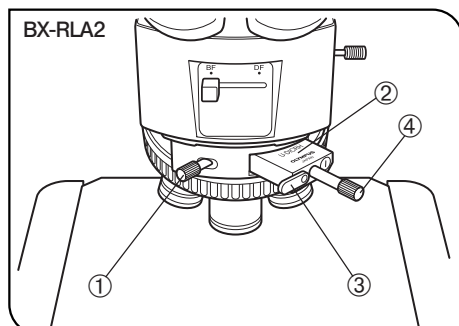

Fig. 27
(Fig. 27)
1. Rotate the prism control knob ④ of the DIC slider to adjust the background color contrast. (Fig. 27)
1. Rotate the prism control knob ① of the DIC slider to adjust the background color contrast. (Fig. 27)